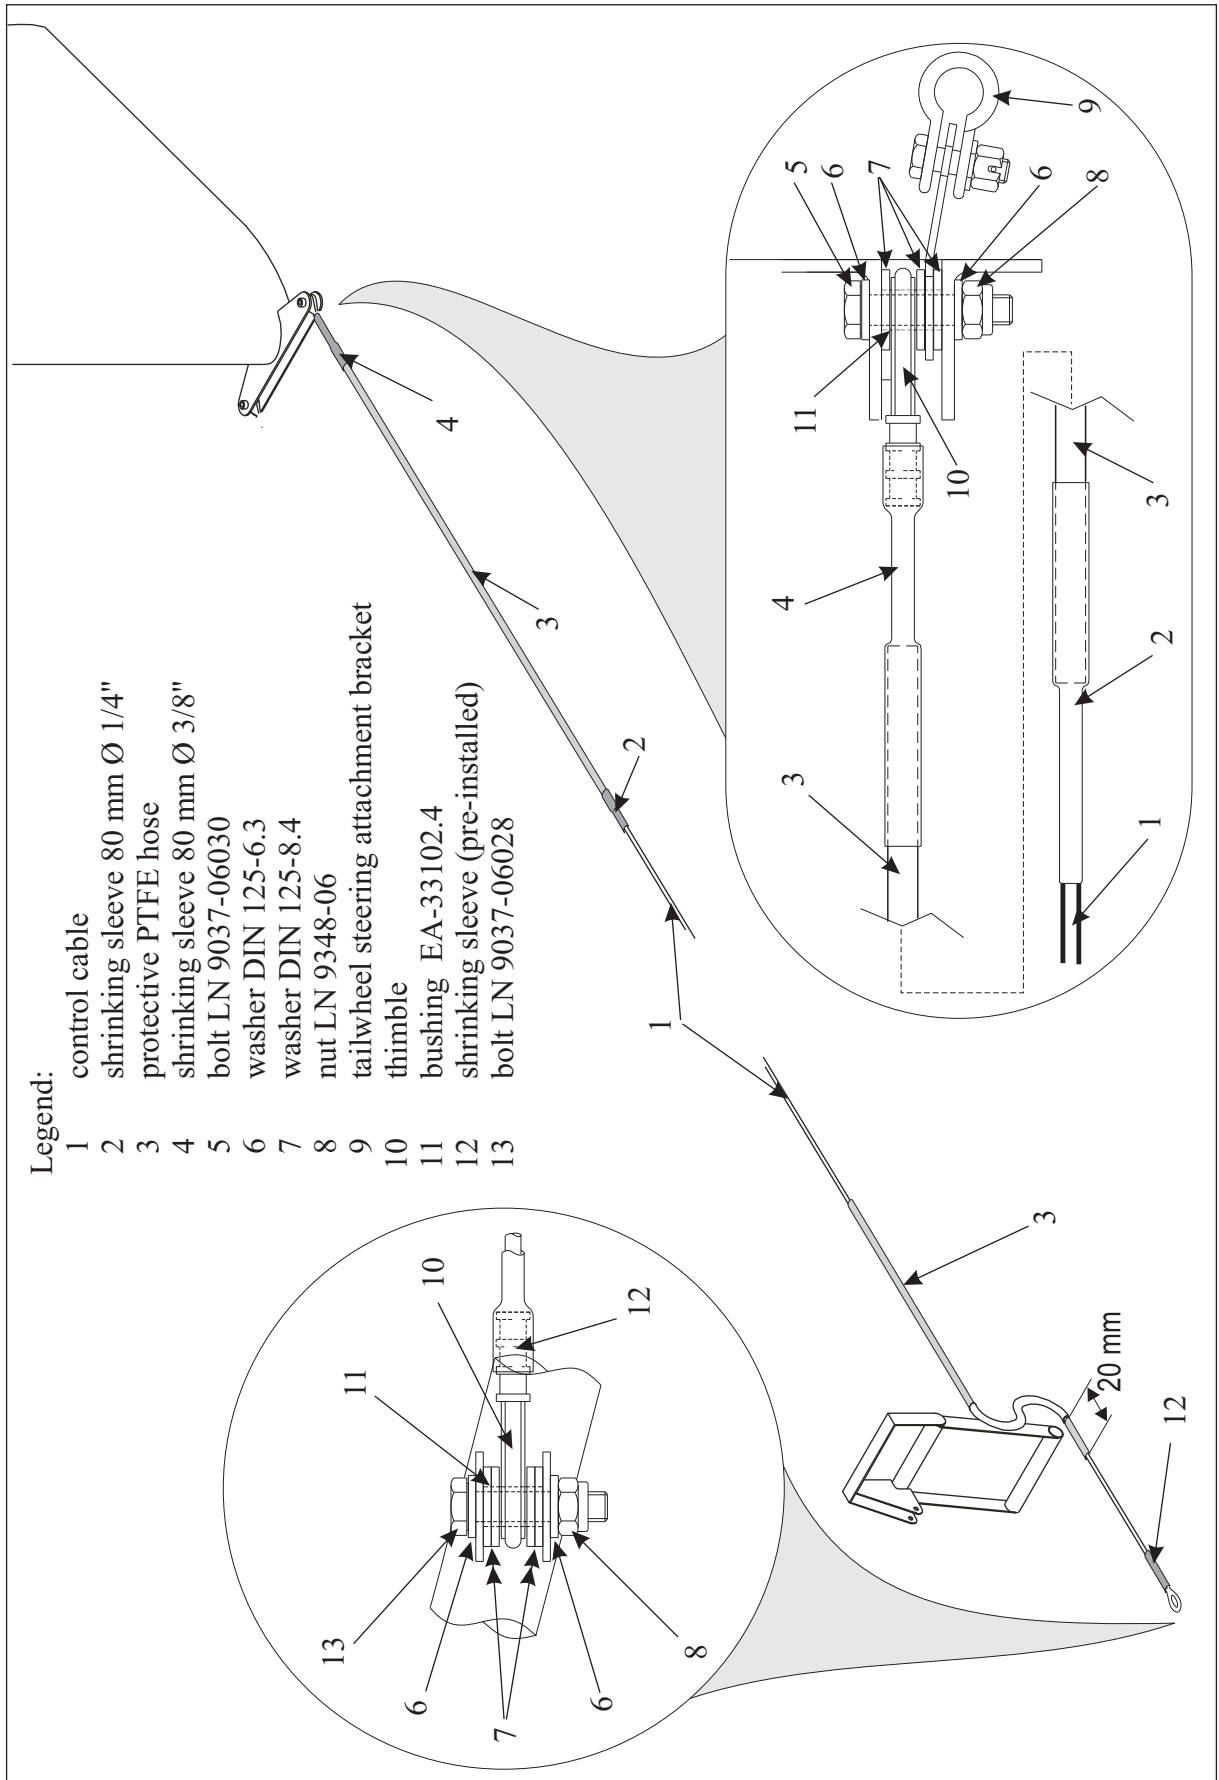

Figure 18
Refer to Figure 18.
- 6 Mount the shackle of the pre-assembled control cable end to the front cable attachment point. Install bolt LN 9037-06028 (13, Figure 18), 4 x DIN 125-8.4 washers (7)(two on both sides of the thimble (10)), 2 x DIN 125-6.3 washers (6), the bushing EA-33102.4 (11), and the LN 9348-06 nut (8).
- 8 Slip 80 mm Ø 1/4" heat shrinking sleeve (2) and 850 mm protective PTFE hose on the control cable end. The protective PTFE Hose shall extend 120 mm beyond the first fairlead inside the fuselage.
- 9 Pre-install the LN 9037-06030 bolt (5), the DIN 125-8,4 washers (7)(one on both sides of the thimble and one below the tailwheel steering attachment bracket), the DIN 125-6,3 washers (6), the bushing (11), the LN 9348-06 nut (8) and the thimble (10) to the bottom hinge bellcrank.